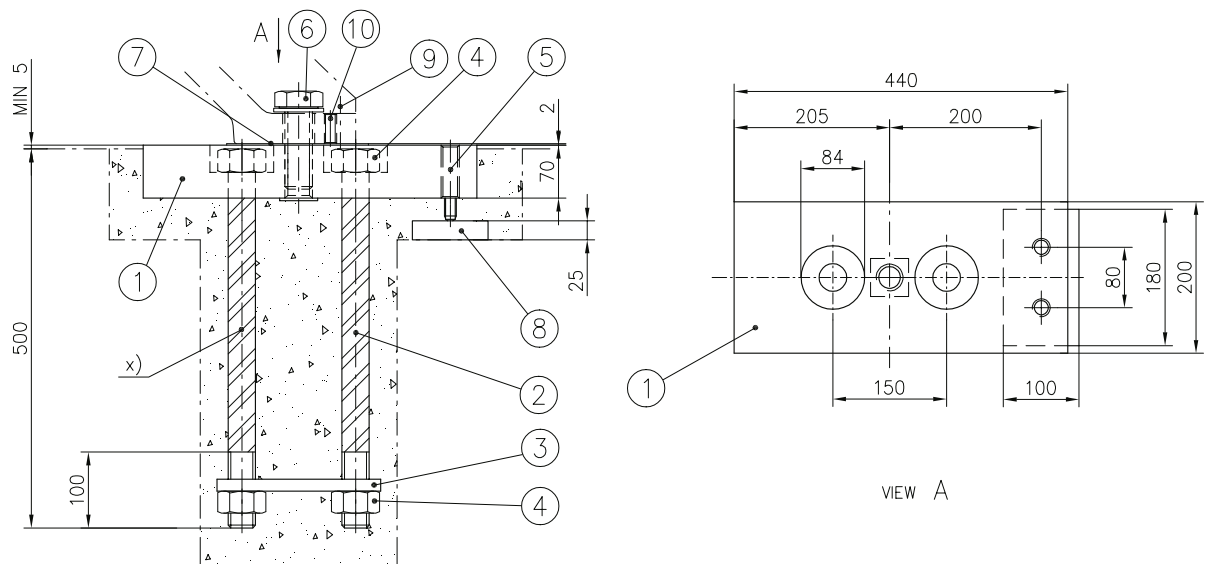

Figure 20 Typical foundation stud assembly
In order to assemble the foundation stud or sole plate set, the machine must be suspended above the floor by a crane. Proceed as follows, see Figure 20 Typical foundation stud assembly:
- Wrap a layer of tape around the upper part of the anchor bolts (part 2) according to Figure 20 Typical foundation stud assembly. The tape will prevent the upper part of the bolt from being stuck in the concrete and enables it to be retightened after the concrete has set.